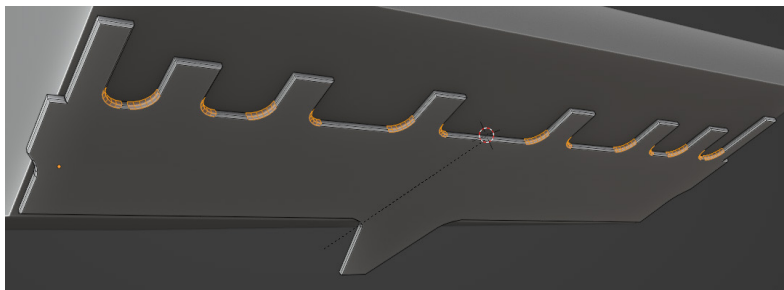

Figure 8.9 – Beveling the edges
6. Extrude the surface to make it thicker and bevel some of the inner edges, as shown in *Figure 8.9*.